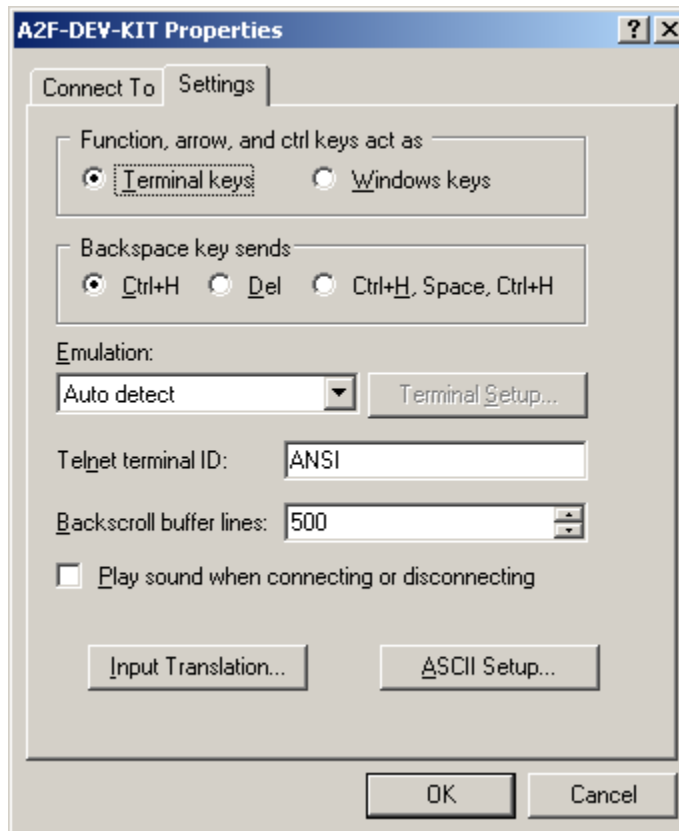

Figure 6-9 • HyperTerminal Properties
4. Select **File > Properties** in the HyperTerminal window. Choose the **Settings** tab (Figure 6-9).